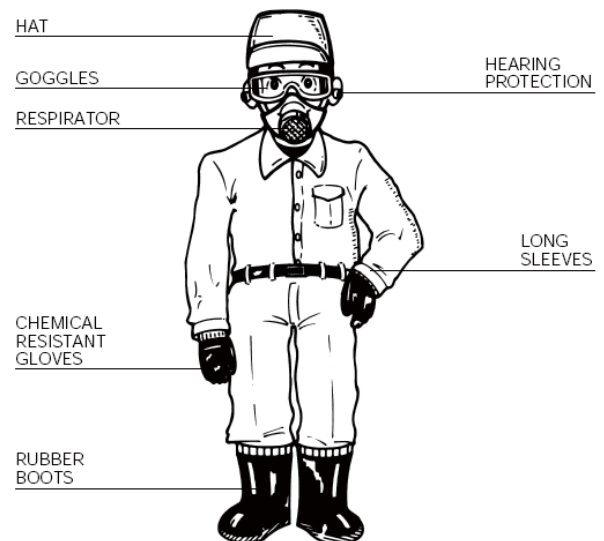

Fig 13
(2)Protective clothing (Fig.13)